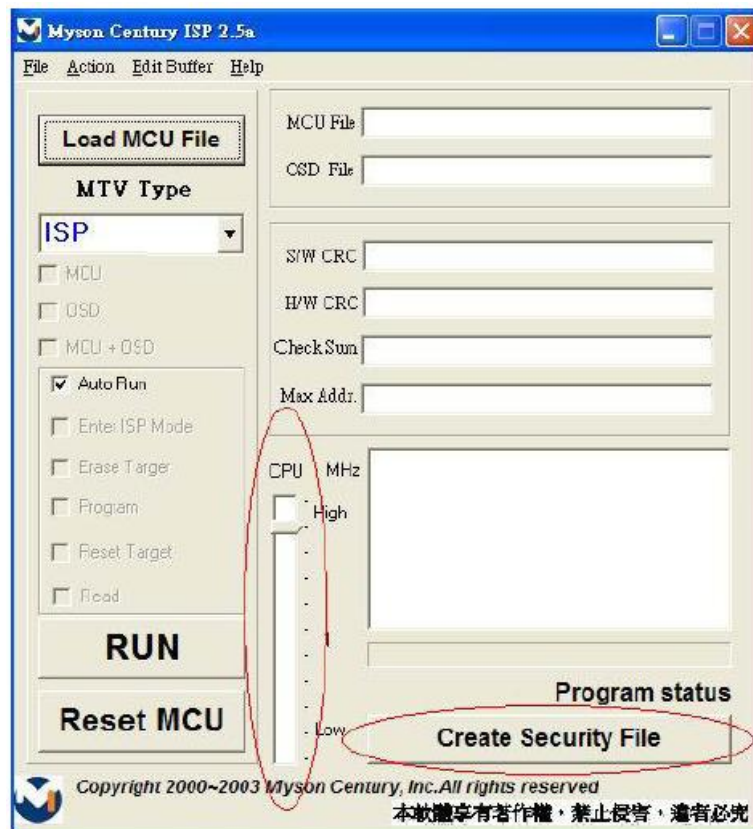

Fig. 2.5
2.5 Fig 2.5 shows the setting for security code of software ISP . it needs 2 command No. and key in command sequentially for 7C , 4C , 77. The command No. and command must be set by user while coding. About the detailed of setting , please refer to section 6 boot code of ISP .